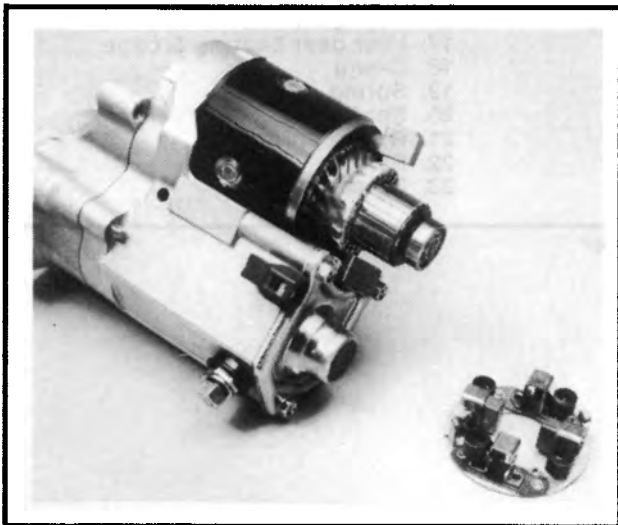

Figure 5-34. Remove Brush Holder
4. See Figure 5-34. Move brush springs out of the way and lift field coil brushes out of brush holder. Remove brush holder.